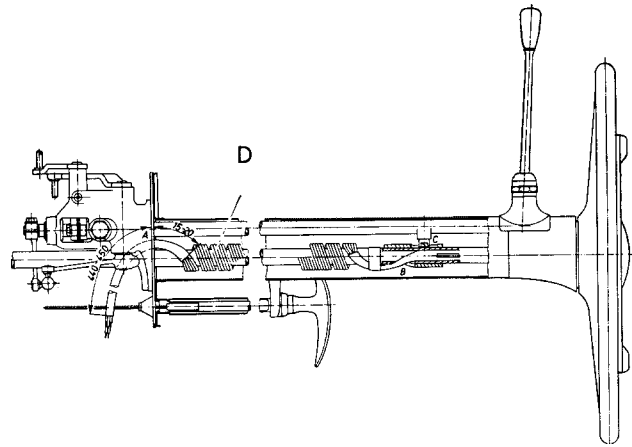

Fig. 46–7/1
11. Pull the cables through the rubber plate on the bearing assembly of the steering wheel shift system until they project about 440–450 mm. The insulating tube of the cable harness should not project into the steering column jacket by more than 15–20 mm (Fig. 46–7/1).
left while an assistant holds the cables at the cable opening A on the bearing assembly (Fig. 46–7/1).
15. Turn the steering wheel hard over to the left and to the right in order to check whether the steering tube is correctly installed. At the same time make sure that on left lock the cables are not under tensile stress at the cable opening A on the bearing assembly by means of the cable clip (see Fig. 46–7/1).